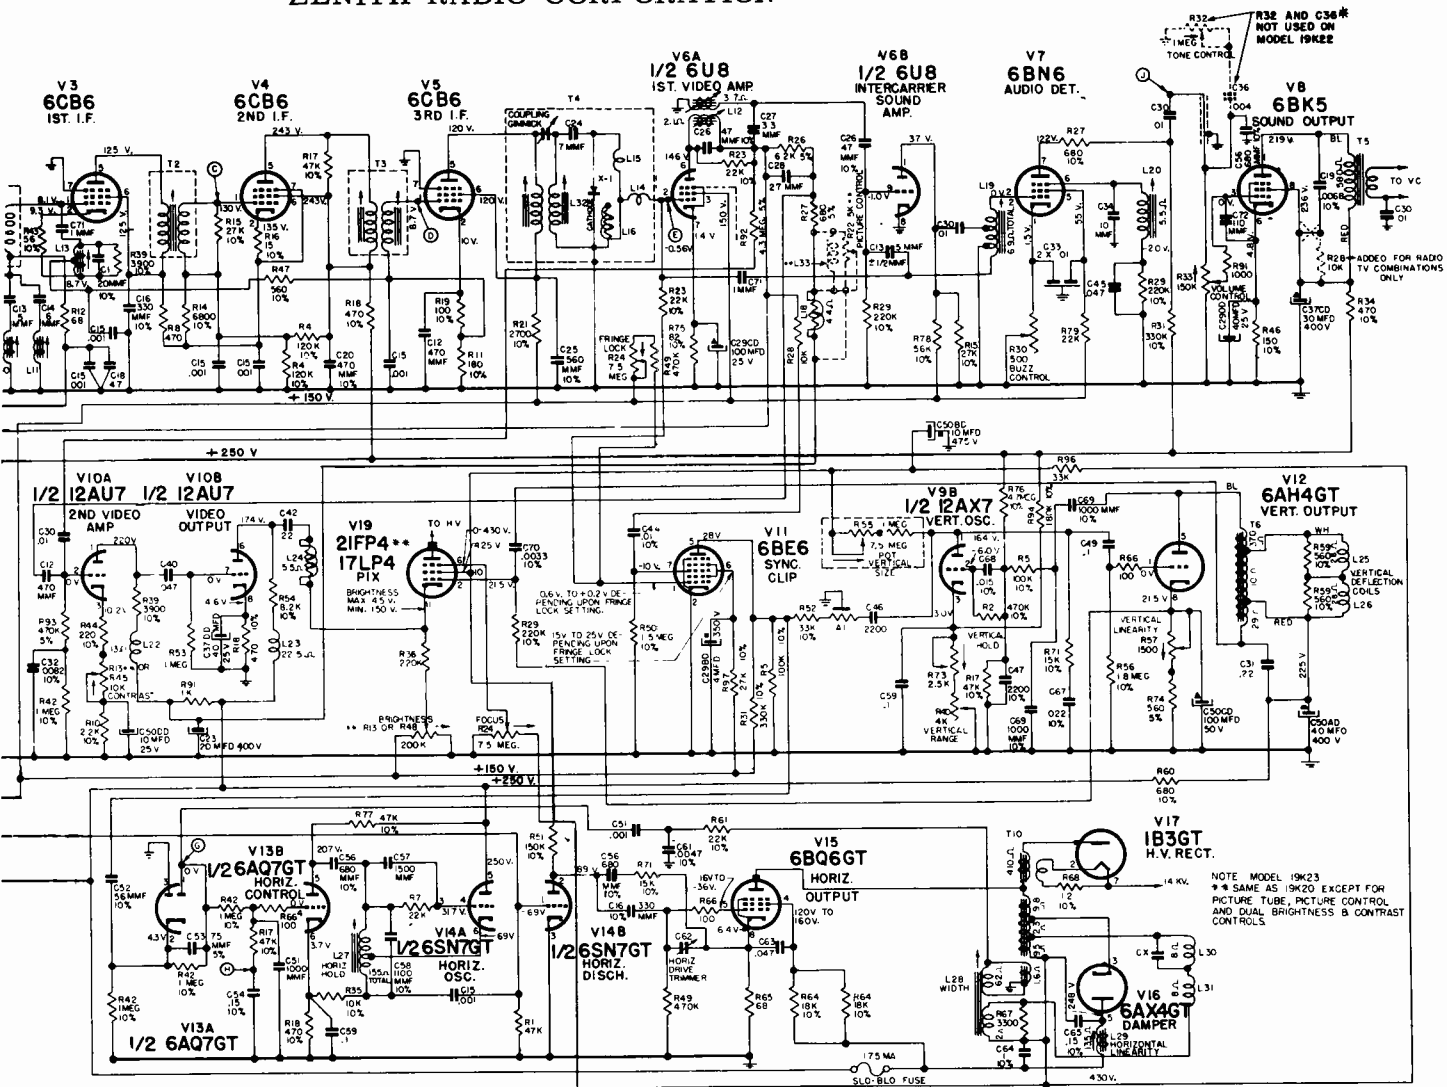

Fig. 25 Schematic Diagram - 19K20, 19K22 and 19K23 Chassis
1. Connect the negative lead of a 2 volt battery supply to terminal "F" (Fig. 25) and the positive lead to chassis. The bias supply should be made variable so that it can be varied from negative 3 volts to positive 3 volts. Keep the supply leads short.
Connect the calibrated oscilloscope through a 10K isolation resistor to terminal "E" (Fig. 25). Select the strongest TV signal and observe the deflection on the oscilloscope screen. Adjust the AGC delay control for 2 volt peak output.